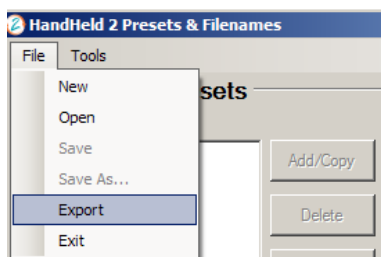

Figure 3-64: Export
- Step 15 The preset can is now ready to be exported to the HandHeld 2 instrument. Under the File pull-down menu, click on *Export* (Figure 3-64).